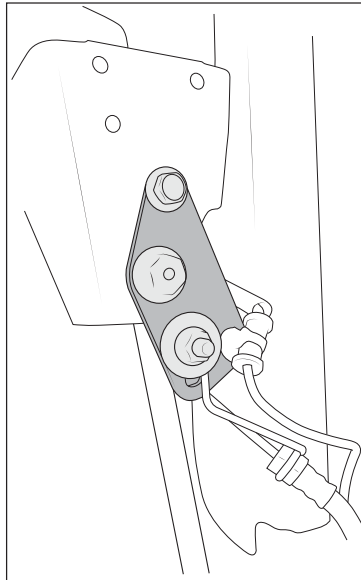

Figure 24
5. Loosely install brake line relocation brackets using factory hardware, and install new sway bar endlinks using M12x70mm hardware as shown (fig. 24). Do not install lower end of endlinks yet.
6. Carefully bend brake line to line up to the new mounting bracket and install using provided M8 hardware. Install ABS sensor into hole with existing clip (fig. 24).